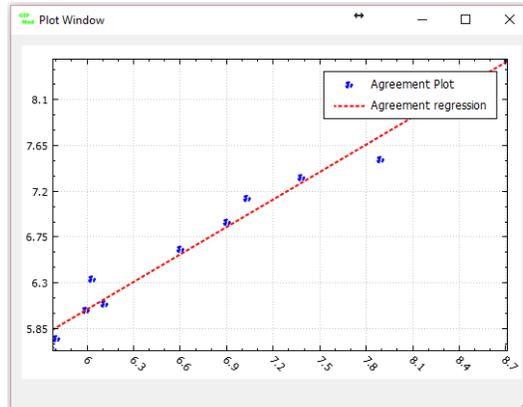

Figure 6.5: Agreement plot
- **Agreement plot:** In the **Project Explorer**, right-click on **Inverse Modeling**→**Observations**→*DO* and then click on **Agreement plot**. The model-observed agreement graph (Figure 6.5) will appear.